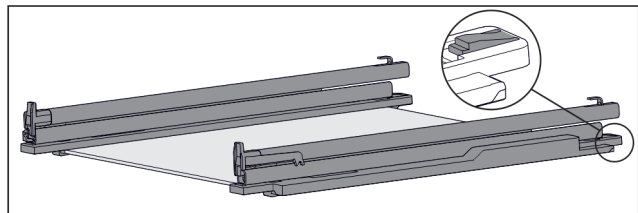

Fig. 110 Glass shelf with rails and retaining parts
- ▶ Press down retaining part at the rear (see Fig. 110) and at the same time push the rail back.